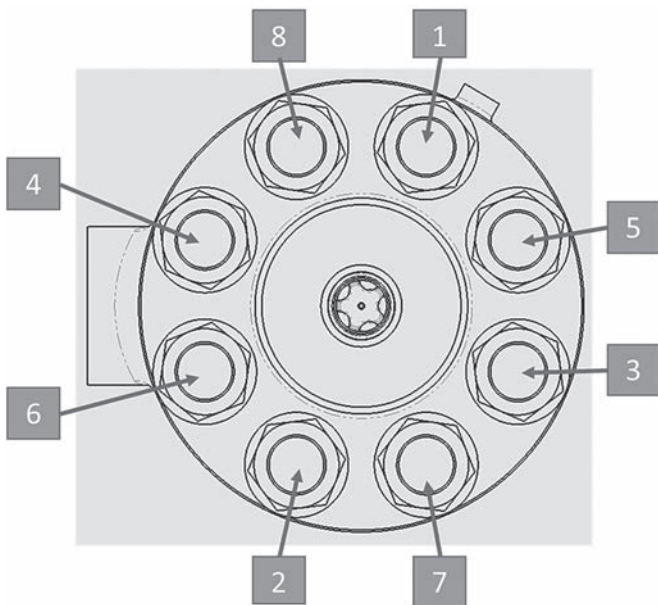

Figure 24 - Torque Sequence Single Bolting Circle 8 Bolts
2. Single bolting circle: in all the case, mount the nuts in order to indicate by Figures 24 and 25 on page 36 and screw them by successive, uniform and progressive levels. Make sure that the bonnet's face stays parallel at the body one, up to the torque value given in Tables 8 and 9 on page 23.